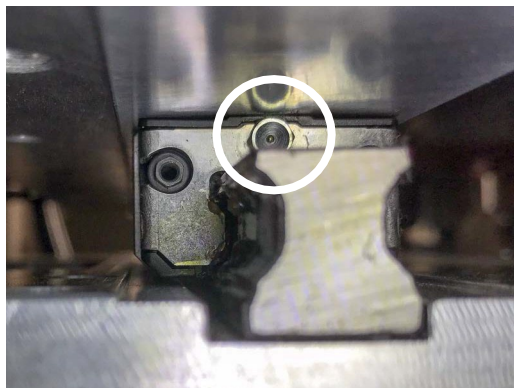

Figure 8-6 Top Z Axis Bearing Grease Fitting
2. Insert needle into top Z axis bearing, Figure 8-6.